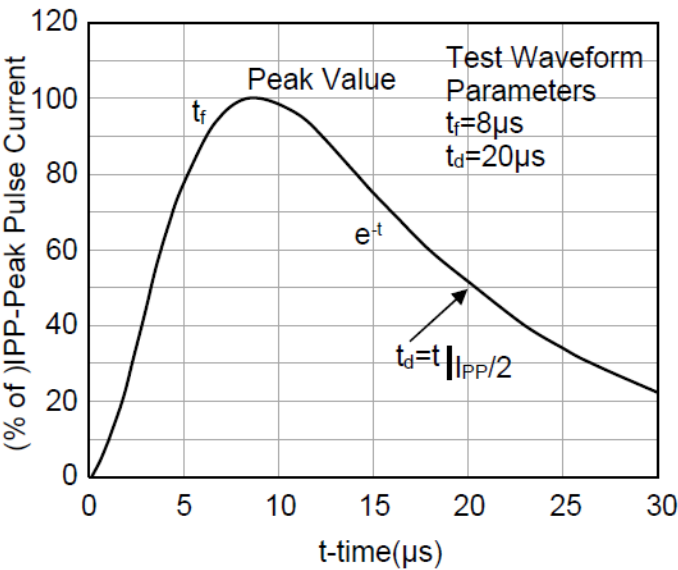

Figure 1. Pulse Waveform according to IEC 61000-4-5
1.Surge current waveform per Figure 1 according to IEC 61000-4-5.